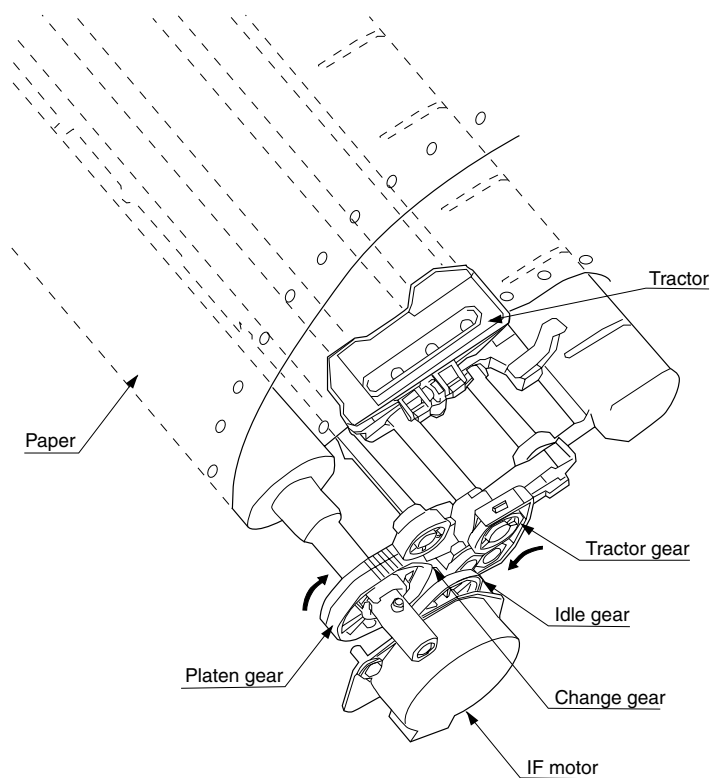

Figure 8
## (3) Continuous paper feed operation (Rear) (See Figure 8.)